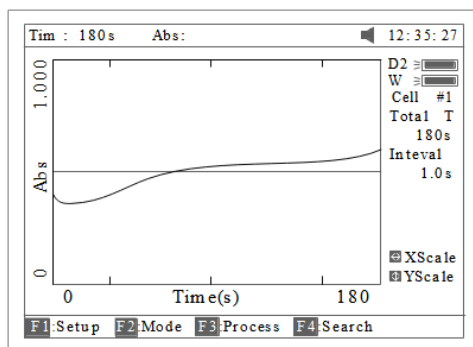

Fig 56
4. Pull the sample cuvette into Main Light Path, press **【START】** to scan the sample. After the delay time, the beeper beeps 3 times and time -scan starts. At the end of the time-scan, the beeper also beeps 3 times (Fig 56);
Press the key **【SAVE】** to save curve. Note: Load/Save requires the first kinetics display page Fig. 56. Press ESC if in Search to return to the required page.